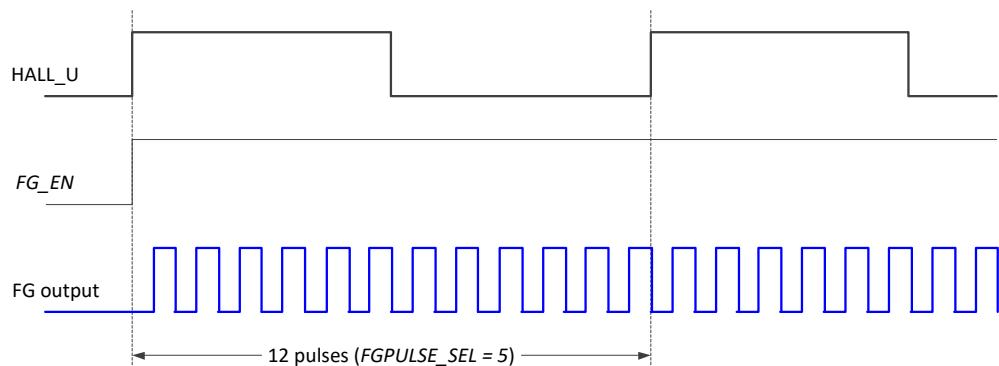

Figure 19.2.3 FG output when FG\_EN=1, FG10PT8P=0, and FGPULSE\_SEL=5
In addition to providing motor electrical cycle (motor speed) information, Motor Speed Observer can also output a fixed pulse number in a hall cycle according to the setting of FG\_CTRL SFR (see Table 19.2.3), that is, it can be used as a frequency generator (FG). Figure 19.2.3 shows an FG output waveform when the control bits in the FG\_CTRL SFR are FG\_EN=1, FG10PT8P=0, and FGPULSE\_SEL=5.